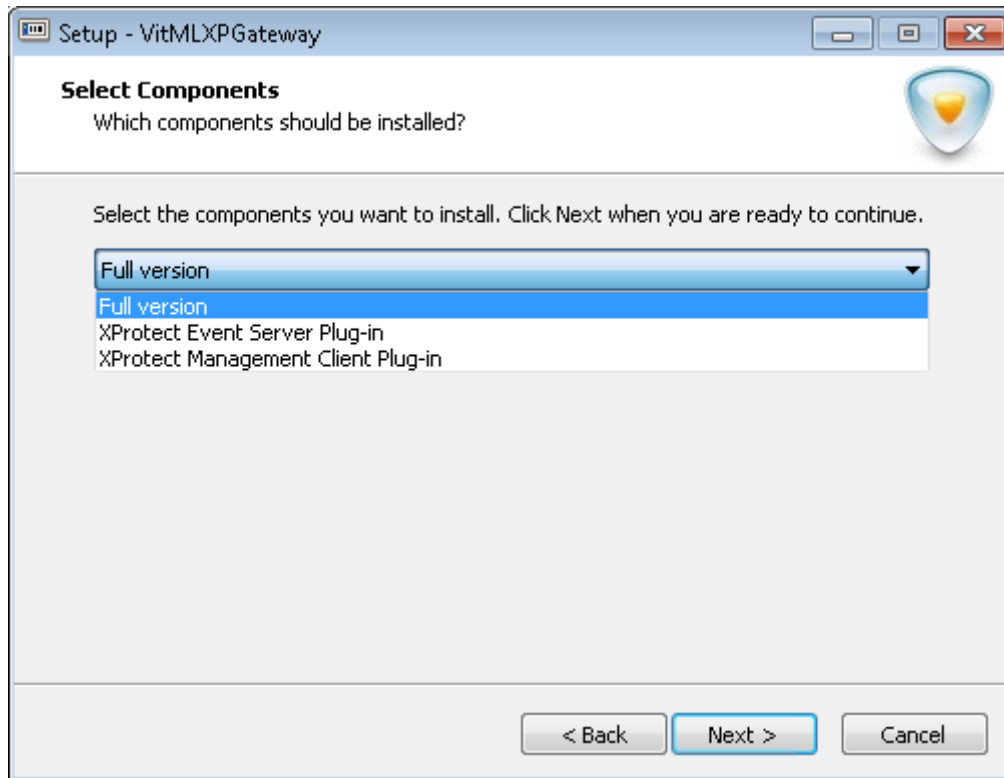

Figure 6
- with **Management Client** application pre-installed and **XProtect Management Client Plug-in** option selected on **Select Components** stage (installation wizard) (see example on Fig. 6).